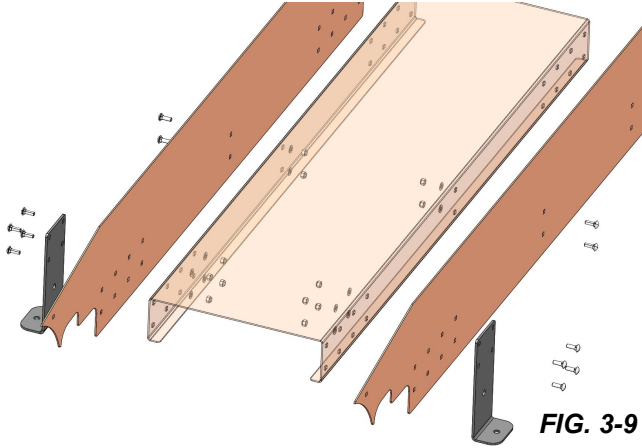

FIG. 3-9
2. Install the drive assembly to support platform on the frame of the conveyor as shown in FIG. 3-9.
Install the conveyor side panels and feet as shown in FIG. 3-9.